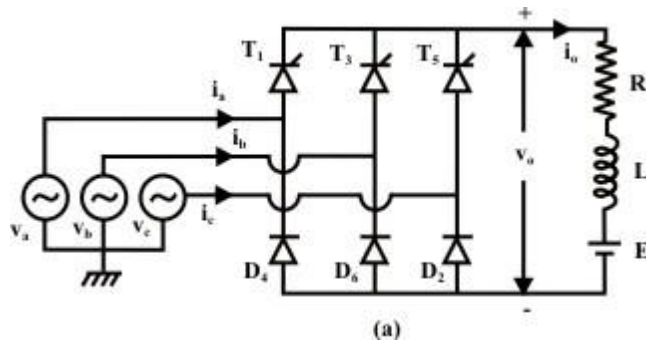

Figure 1: Semiconverter
1. A three phase semiconverter as shown in Figure 1 is operated from a three phase Y connected 208 V 60 Hz supply and the load resistance is $R=10\Omega$, and $L=10\text{mH}$. If it is required to obtain an average output voltage of 50% of the maximum possible output voltage, calculate